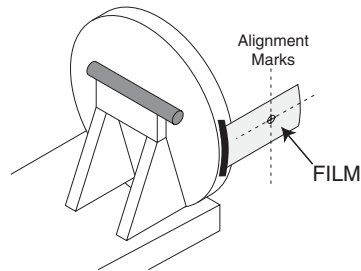

Figure 9-9 Alignment Marks on Film
- 6.) After the film is developed, transfer the table marking to the film itself while keeping the orientation correct (Figure 9-9).